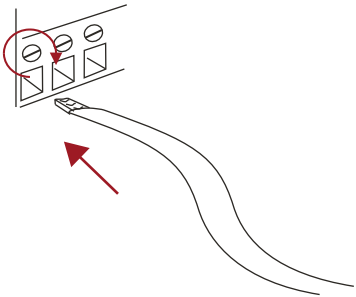

Figure 4-6 Mains Connection Detail
2. Tighten the corresponding terminal screw with a flat screwdriver, see Figure 4-6.
For DC load connections follow instructions given in Figure 4-6.
Battery connections are available at the rear of the system adjacent to the load connections, see Figure 4-6.